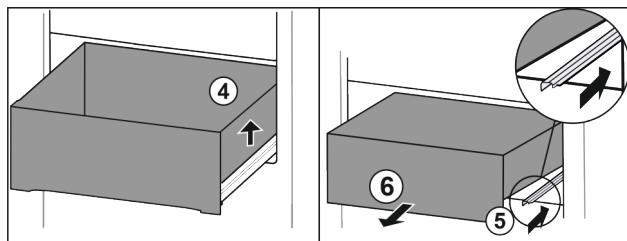

Fig. 85
- Lift drawer on the right. Fig. 85 (4)
- Slide in right rail. Fig. 85 (5)
- Remove drawer to the front. Fig. 85 (6)